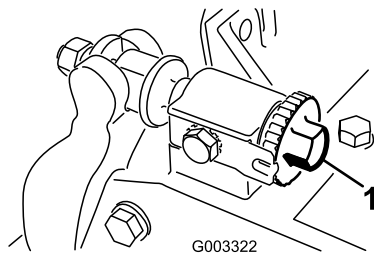
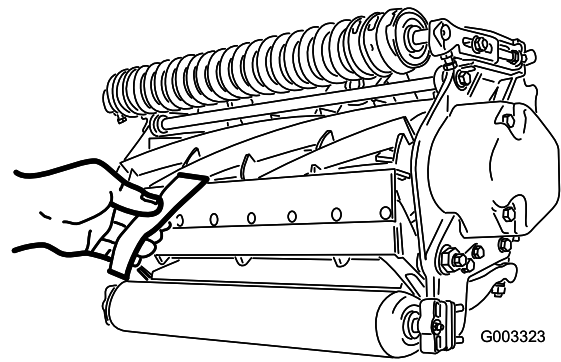

Figure 16
Figure 17
1. Position machine on a flat, level work surface. Make sure reel contact is removed by turning bedbar adjusting screws counterclockwise (Figure 16).
Important: Make sure nuts on back end of bedbar adjusting screws are not resting on the work surface (Figure 16).
3. At one end of reel, insert a strip of newspaper between reel and bedknife (Figure 17). While slowly rotating reel forward, turn bedbar adjusting screw (Figure 16) clockwise on same end of reel, one click at a time, until paper is pinched lightly, when inserted from the front, parallel to the bedknife. A slight drag will be noted as the paper is pulled.
5. After adjustment is accomplished, check to see if reel can pinch paper when inserted from the front and cut paper when inserted at a right angle to the bedknife (Figure 17). It should be possible to cut paper with minimum contact between the bedknife and the reel blades. If excessive contact/reel drag is evident it will be either necessary to back lap or regrind the cutting unit to achieve the sharp edges needed for precision cutting (Refer to the Toro manual for Sharpening Reel and Rotary Mowers, Form No. 80-300PT).